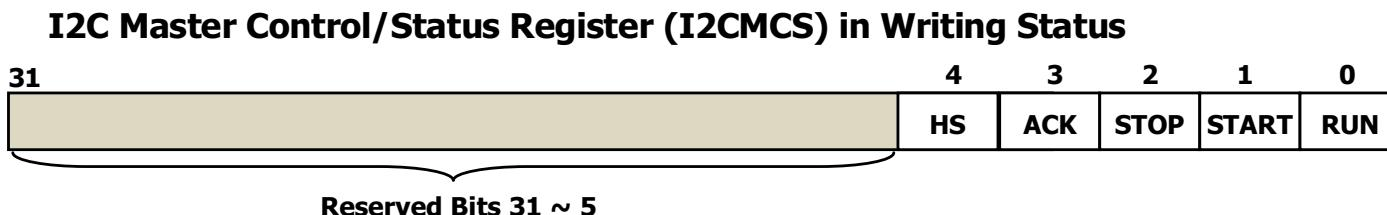

Figure 8.51 The bit configurations in the I2CMCS register (Writing).
- Figure 8.51 shows the bit field configurations in the **writing** status, and Table 8.25 shows the bit field values and functions in the **writing** status.